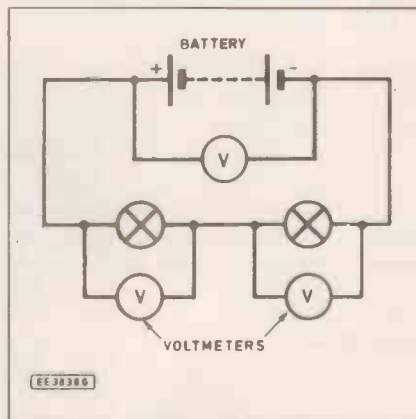

Fig. 2 Voltmeters connected in a circuit.
To measure voltage a voltmeter is used, connected in parallel with the circuit component in question. Fig. 2 shows three separate voltmeters being used to measure the voltage (V) across the battery and across each bulb in the circuit. Students should be encouraged to build these circuits and take readings, several things emerge. Firstly the current is found to be the same throughout a series circuit.
If we measure the voltage directly across the battery and across the individual circuit components (see Fig. 2) it is found that the supply voltage is equal to the sum of the voltages across the bulbs. For example, if the battery voltage is 6V, it may be found that 3.5V exists across one bulb and 2.5V across the other one.